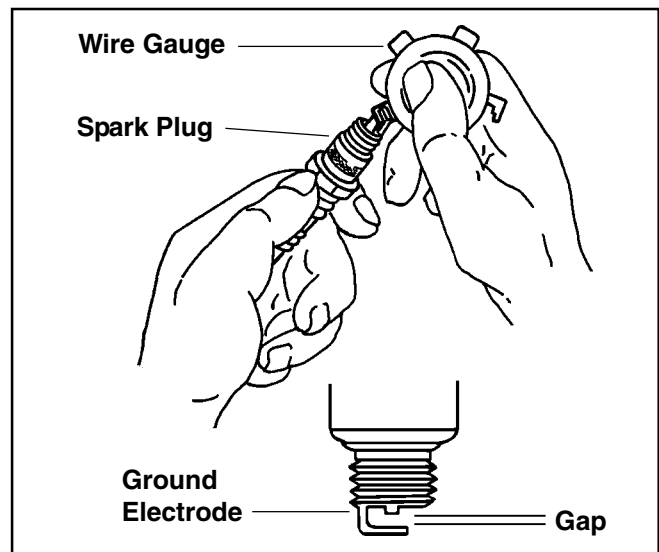

Figure 11. Servicing Spark Plug.
3. Check the gap using a wire feeler gauge. Adjust the gap by carefully bending the ground electrode. See Figure 11. Gap CH11-15 plugs to 1.02 mm (0.040 in.). Gap CH16 plugs to 0.76 mm (0.030 in.).